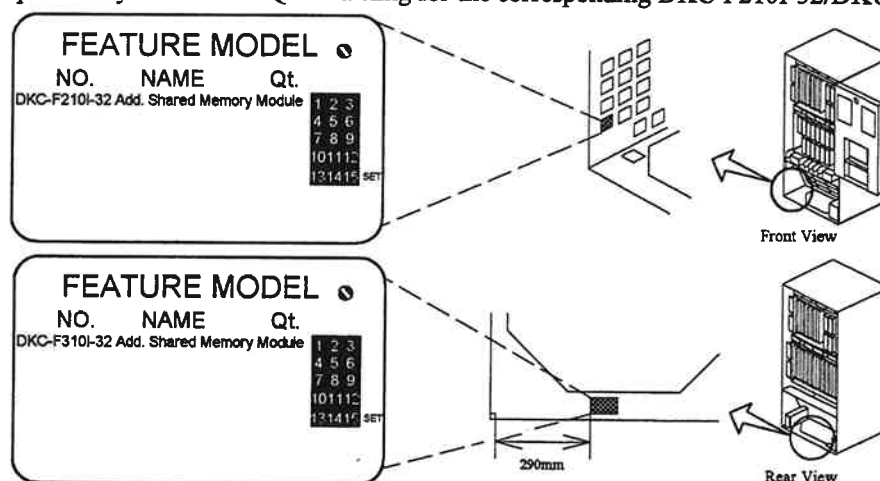

Fig. 3.3.7.3.2-4 Location of the Nameplate
- When the DKC-F310I-32 is to be newly installed, attach a nameplate according to Figure 3.3.7.3.2-4. When the nameplate is already attached, go to the next step.
- Refer to Fig. 3.3.7.3.2-4 and Table 3.3.7.3.2-4 to paint out unnecessary numbers and wipe off a necessary number painted previously so that the "Qt." marking for the corresponding DKC-F210I-32/DKC-F310I-32 can be seen.